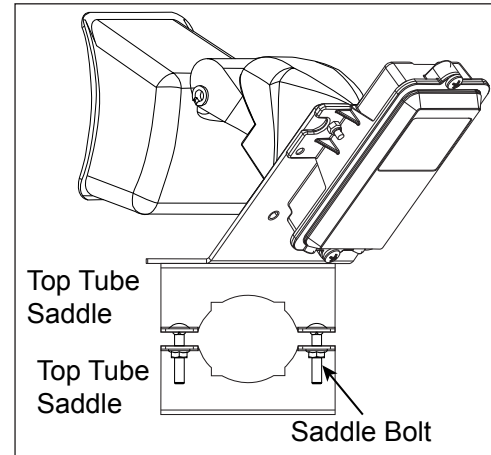

Figure 23: Mobotix Webcam Mounting
5. Slide the webcam arm between the top and bottom tube saddles until the webcam assembly is 2" from the end of the webcam arm. Refer to **Figure 23**.